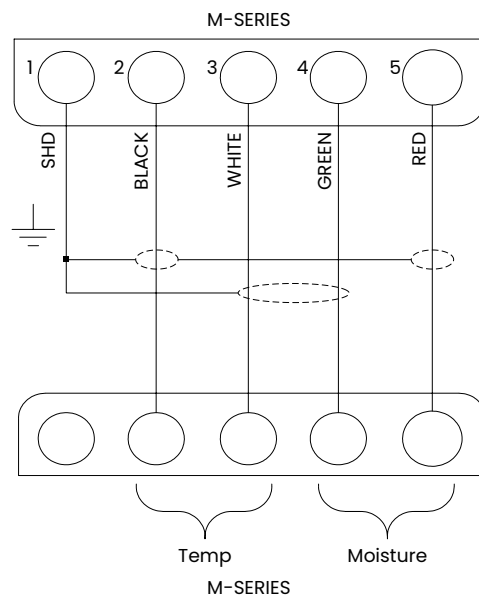
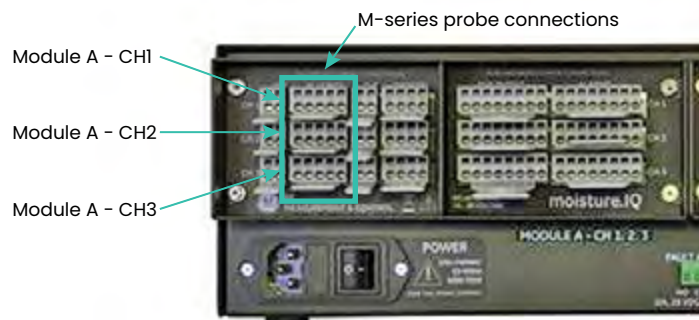

Figure 12: M-series probe cable wiring diagram
Figure 13: M-series probe connections
Before making the electrical connections, connect the cable to the probe by inserting the bayonet-type connector onto the probe and twisting the shell clockwise until it snaps into a locked position (approximately 1/8 of a turn). Wire the probe cable per the wiring diagram in *figure 12* below. The M-series terminal block on the back panel of the moisture.IQ (see *figure 13* on page 18) also notes the corresponding color from the probe cable.
**Note:** The label **SHD** in *figure 12* above corresponds to the **SH** label on the connector, and these terminals are used to terminate the cable shield.